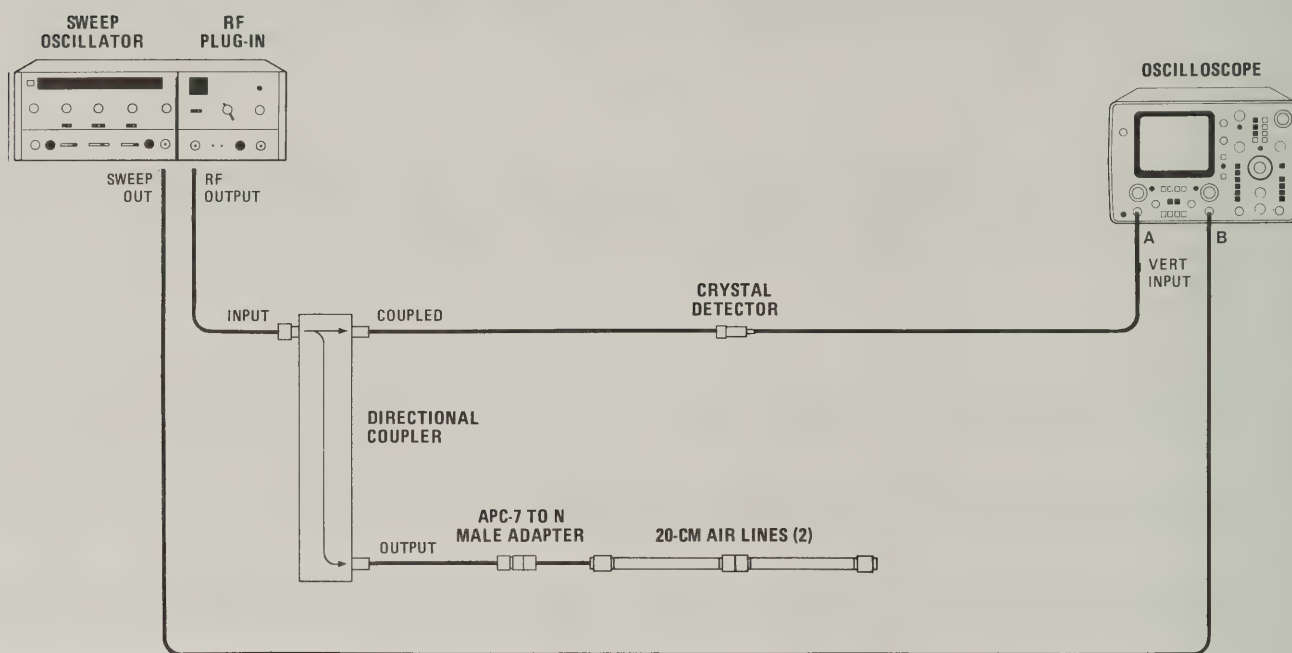

Figure 4-12. Equivalent Source Match SWR Test Setup
- a. Connect equipment as shown in Figure 4-12. Allow 30 minutes warm-up time. Set controls as follows: